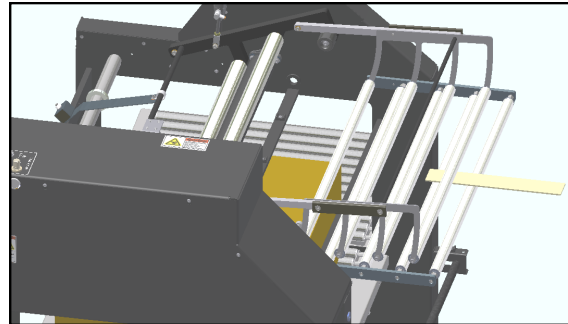

Figure 4-9C. Spacer Placement.
1. Lift the Dancer UP and place a 0.125" spacer on top of the two outside Stationary Rollers. Let Dancer rest on spacer. Figure 4-9C.